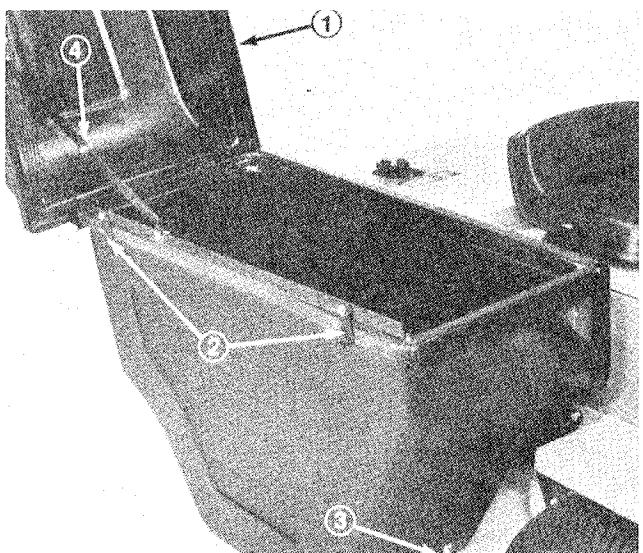

Figure 14
**Note:** When lowering hopper top, make sure bag link pivots upward and tip fits over chute (Fig. 14).